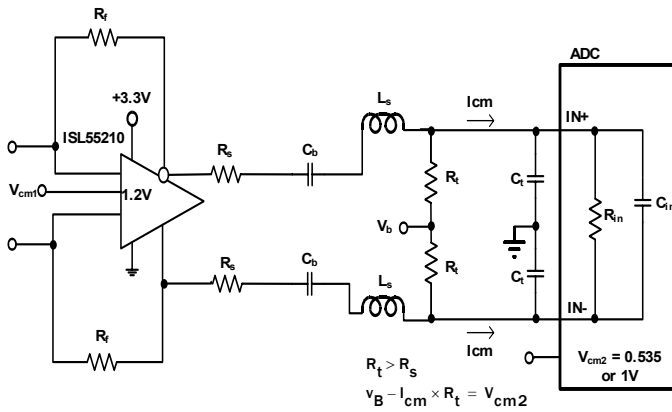
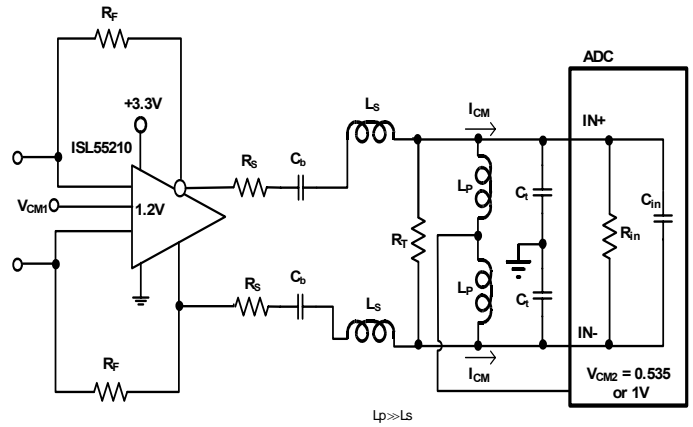

FIGURE 34. AC COUPLED, BROADBAND RLC INTERSTAGE FILTER DESIGN
FIGURE 35. AC COUPLED, HIGHER FREQUENCY RLC FILTER DESIGN
2. AC coupled, higher frequency range interstage filter design. This design replaces the R_t resistors in Figure 34 with large valued inductors and implements the filter just using shunt resistors at the end of the RLC filter (here, that is just the ADC internal differential R_{in}). In this case, the ADC V_{CM} can be tied to the centerpoint of the bias path inductors (very much like a Bias-T) to provide the common mode voltage and current to the ADC inputs. These bias inductors do limit the low frequency end of the operation where, with $1\mu\text{H}$ values, operation from 10MHz to 200MHz is supported using the approach of Figure 35.